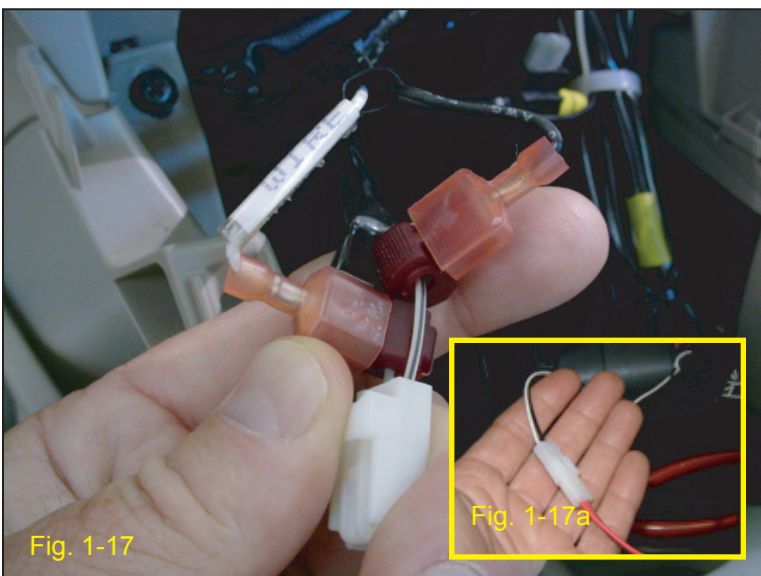

Fig. 1-17
- g. Attach harness to power. (Fig. 1-17)